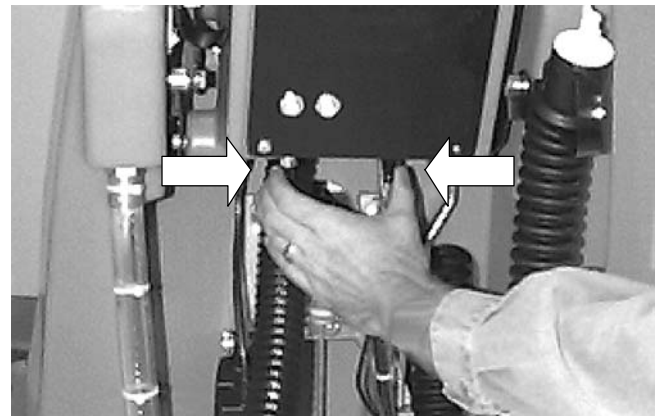

FIG. 5
- Squeeze levers together and lift or lower control grips to a comfortable operating height (Figure 5).